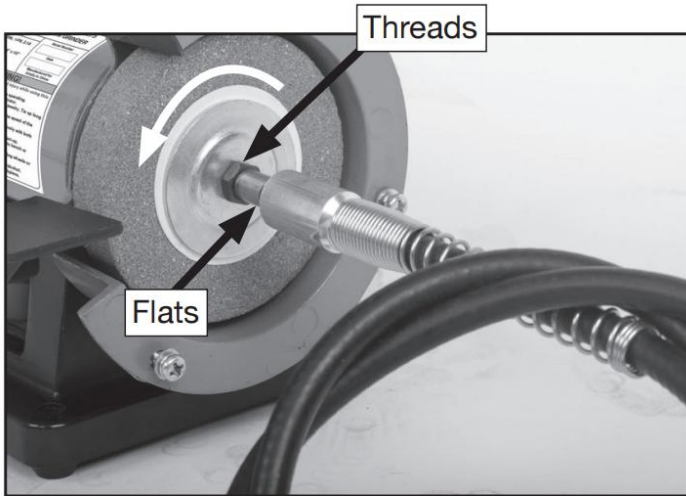

Figure 18. Rotating shaft attached to grinder
2. Thread rotating shaft onto spindle on right hand side of grinder (see **Figure 18**).
Tip: *Hold wrench on flats of rotating shaft, then rotate grinding wheel counterclockwise with free hand to tighten (see **Figure 18**).*